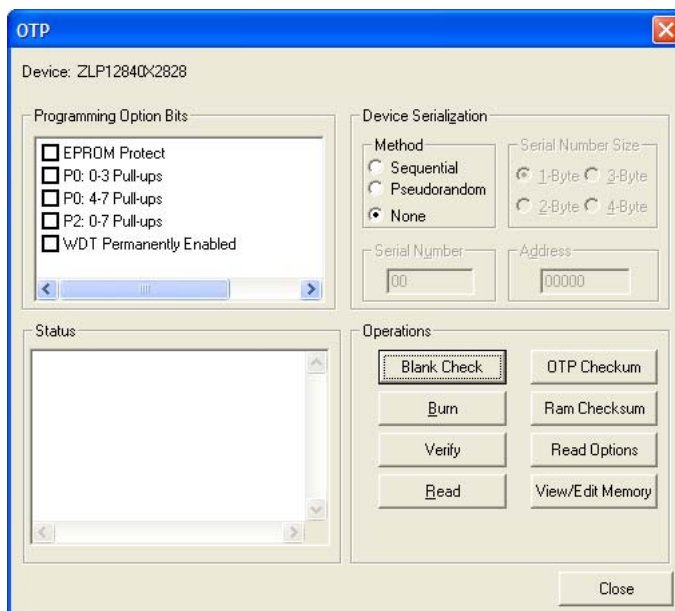

Figure 15. OTP Programming Window (Current ZDS II Project Example)
8. Select Tools → OTP Programming to open the OTP window (Figure 15).